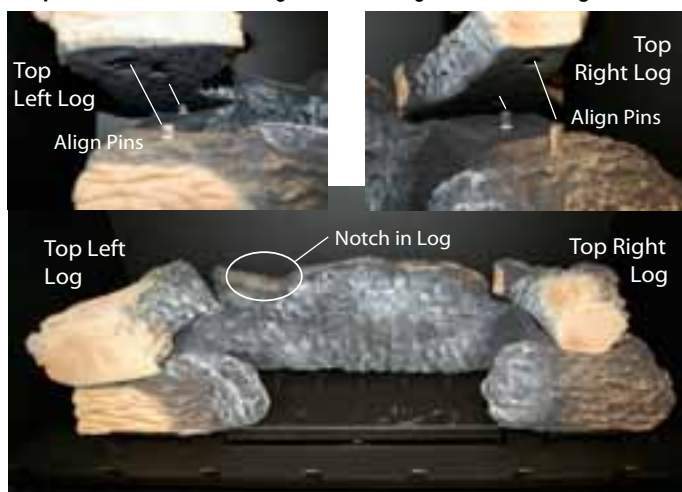

Figure 27c. Top Left / Right Log.
Step 4. Place the Top Right log as shown in **figure 27c**. using the (4) four alignment pins protruding from the top of the Right and Left Bottom Logs, as shown in **figure 27c**. With these pins align the Top Right and Left logs using the predetermined alignment holes cast into the underside of the logs, as shown above, **figure 27d**.
Step 5. Place the Centre Front log, **Figure 27d** below, as shown using the notch cast in the Bottom Rear log as shown in **figure 27c** above.